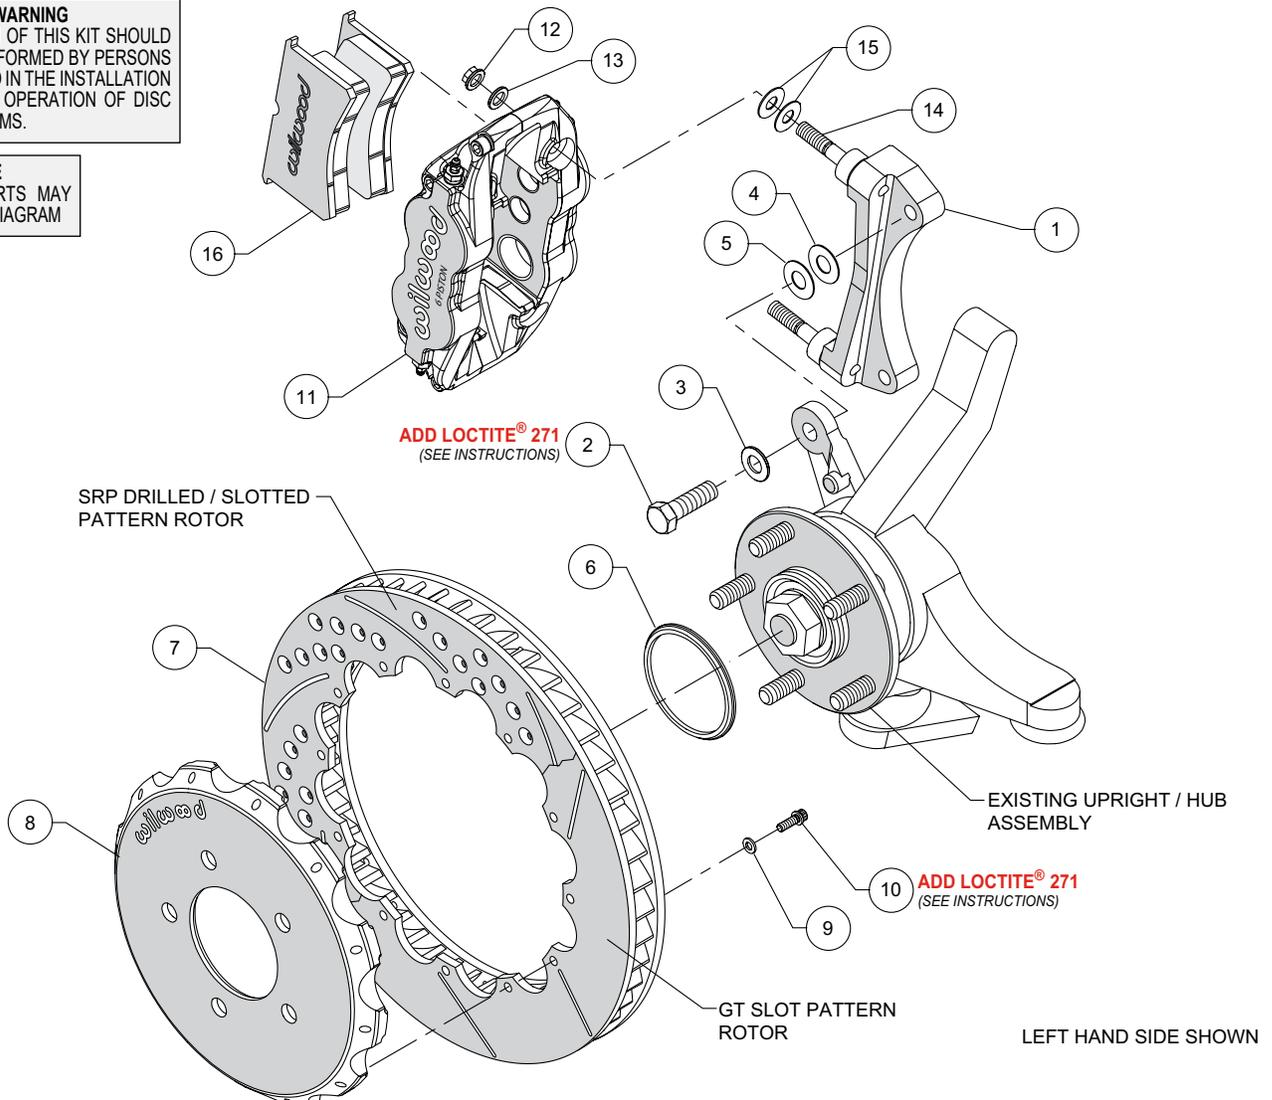
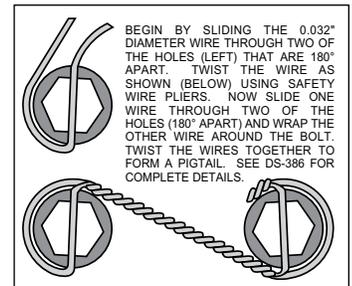

Figure 1. Typical Installation Configuration
Figure 3. Safety Wire Diagram
NOTE: Numbers in parenthesis refer to the parts list and Figure 1 on the preceding pages.
- The caliper mount bracket (1) should initially be installed with clean, dry threads on the mounting bolts. Orient the bracket as shown in Figure 1 and Photo 1, and install using mounting bolts (2) and washers (3). Initially place one each .033" thick shim (4), and .015" thick shim (5) on each bolt between the bracket and upright, Figure 1. Temporarily tighten the mounting bolts. **NOTE:** The bracket must fit squarely against the mount bosses on the upright. Inspect for interference from casting irregularities, machining ridges, burrs, etc. Later, after the caliper alignment has been checked, the mount bolts will be secured using red *Loctite*® 271.
- Orient the rotor (7) and the hat (8) as shown in Figure 1 and Photo 2. Attach rotor to hat using bolts (10) and washers (9). Apply red *Loctite*® 271 to the bolt threads and torque to 155 in-lb using a criss-cross pattern. For an added measure of security, the bolts may be safety wired using standard 0.032 inch diameter stainless steel safety wire as shown in Figure 3. Please refer to Wilwood's data sheet DS-386 (available at www.wilwood.com/Pdf/DataSheets/ds386.pdf) for complete safety wire installation instructions.
- NOTE:** This kit contains distinct right and left hand calipers that must be mounted in a specific direction, as described below. Initially place two .035" thick shims (15) on each stud (14) as shown in Figure 1 and Photo 4. Mount the caliper (11) onto the bracket (1) using lock nuts (12) and washers (13), Figure 1 and Photo 5. Ensure that the caliper is mounted so that the largest pistons are at the rotor exit end of the caliper, in relation to the direction of rotor rotation. Temporarily tighten the lock nuts and view the rotor through the top opening of the caliper. The rotor should be centered in the caliper, Photo 6. If not, adjust by adding or subtracting shims (4 and/or 5) between the bracket and the upright. Always use the same amount of shims on each of the two mounting bolts. Once the caliper alignment is correct, remove the bracket mounting bolts one at a time, apply red *Loctite*® 271 to the threads, and torque to 60 ft-lb.